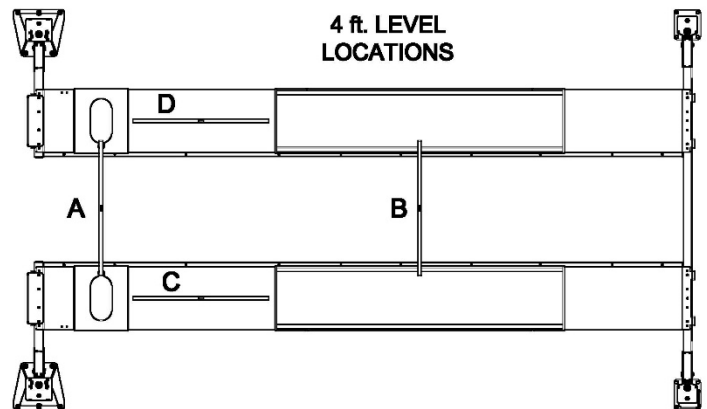

Fig 24 - 4 ft. Level Locations
- 69) Using a 4ft level placed at the following four different locations, find the highest corner of the lift, **Fig 24**: